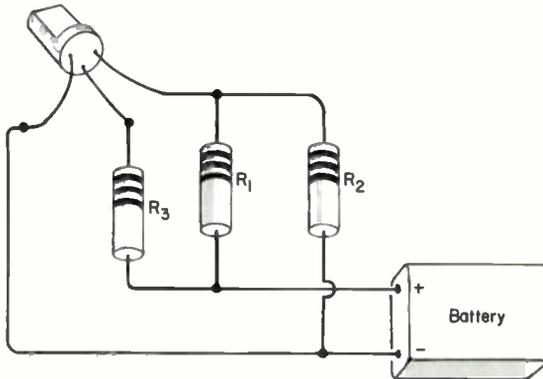

Fig. 50
1. Identify the leads of the transistor in Fig. 50.
2. Draw the schematic diagram for the pictorial diagram of Fig. 50. (Use an NPN-type transistor.)